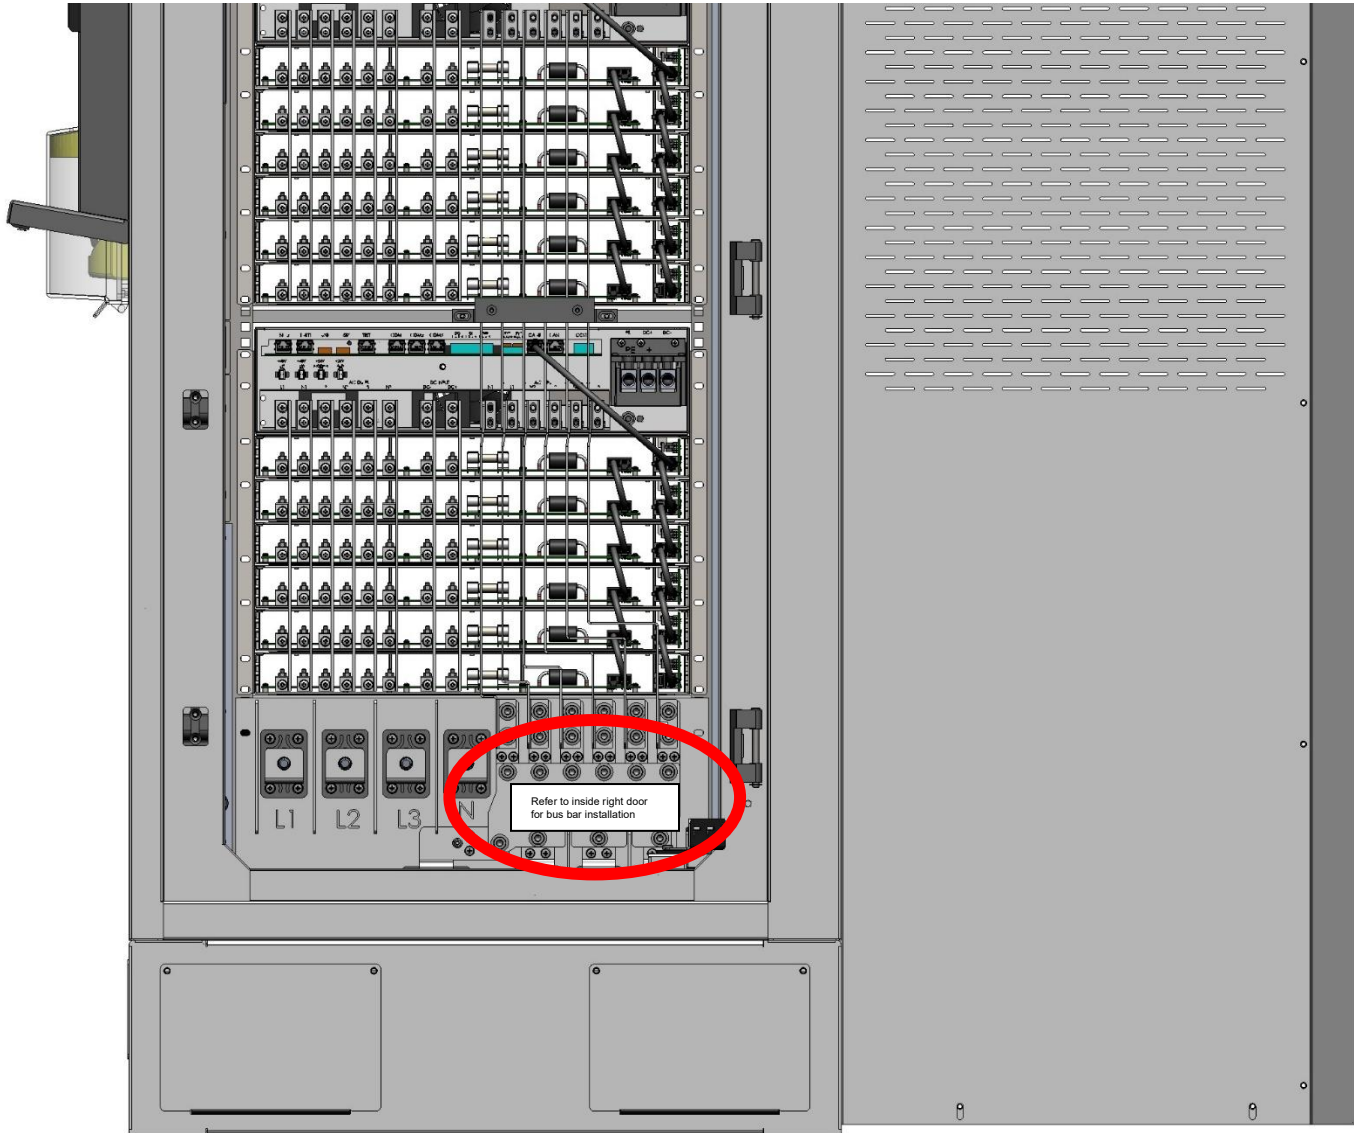

Figure 39 - Bus Bar with temporary plastic spacer plate installed
8. Locate Bus Bar near bottom right-side. A temporary plastic spacer plate is installed, as shown in Figure 39, your charger's bus bar needs to be configured: **Continue to the next step** to begin configuring the bus bar.